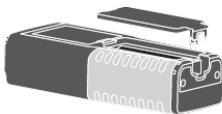

Fig. 9: Replacement of the internal battery
1. Loosen the battery compartment cover fastening screw and remove the cover (see Fig. 9)